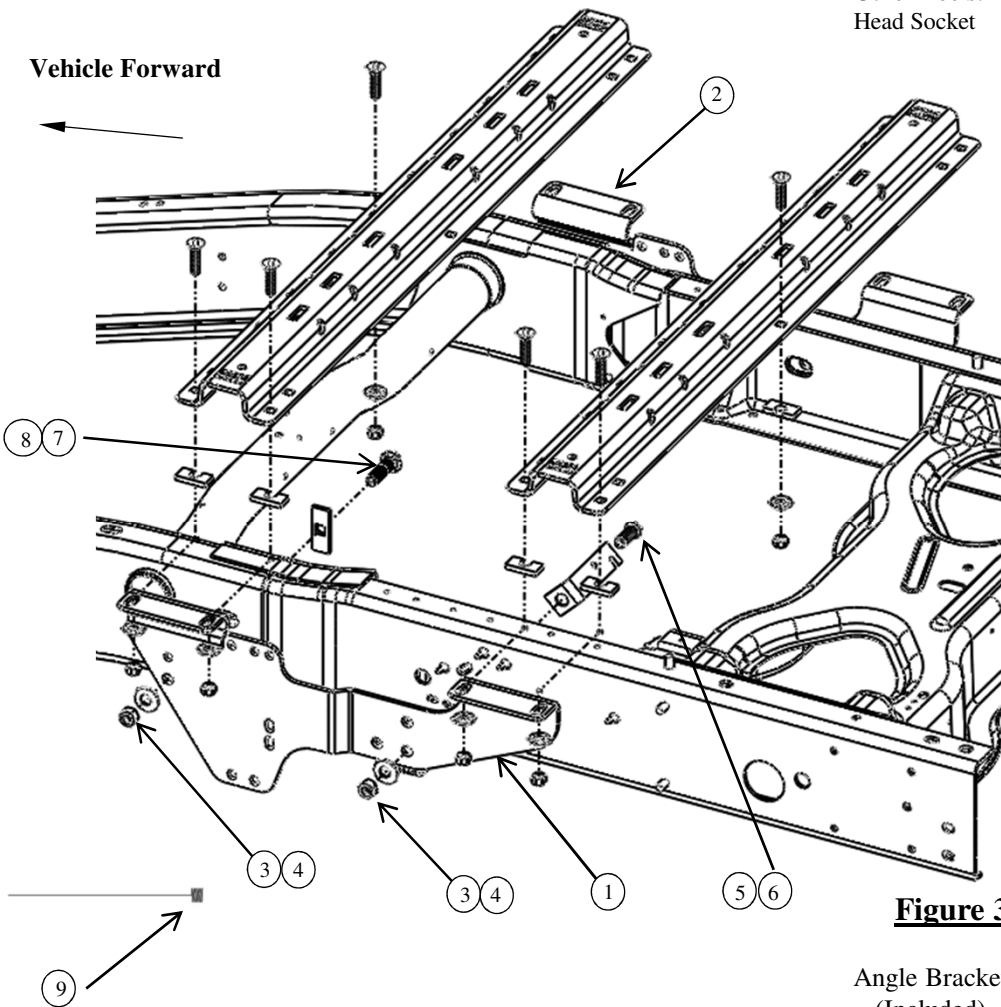
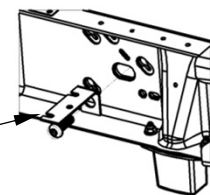

Figure 3
Figure 4c
When installing to Figure 3 & 6, during drilling protect the fuel tank and filler tubes, brake lines and wire harness by placing a piece of metal between the box floor and potential components at risk on the driver's side. This will prevent drilling into these items.
7. Fasten the frame brackets to the vehicle frame rails as shown in Figure 3. Pass the cap head bolt (6) through the conical washer (4) and then the rearward slot interior of the truck frame. Place the mounting bracket (1), conical washer (4), and the nut (3) on and hand tighten. On Pickups with OE Brake Controller, refer to installation step 2 to relocate the plug with the angle bracket. Use the cap head bolt (6) to attach the angle bracket to the inside of the frame (see Figure 4c), the angle bracket will go between the flat washer and the frame.
8. The forward slot of the truck frame will require using the supplied wire pull (9) to install the carriage bolt to the interior of the truck frame. Pass the wound end of the wire through the exterior of the frame, pulling it enough to thread the rectangular carriage block (8) and the 5/8" carriage bolt (7) on to the wire pull. Pulling the wire pull back through the frame will allow the installation of the mounting bracket, conical washer (4) and the nut (3). Hand tighten the nut in place.